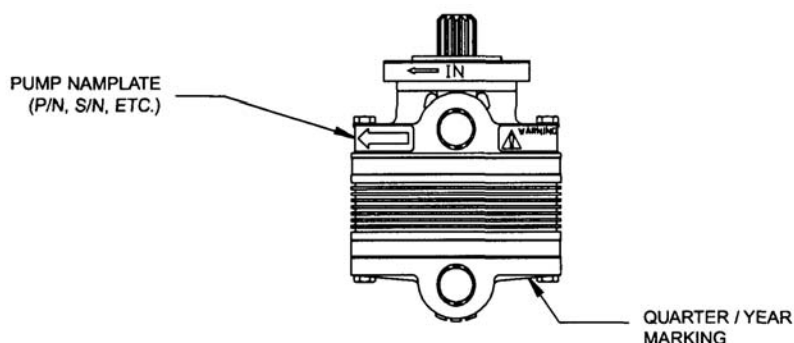

Figure 1
- 1) The date of manufacture is encoded in the serial number located on the nameplate of the air pump as depicted in Figure 1. The first numbers (1 through 12) of the serial number indicate the **month** (January through December) of manufacture. The following letter combinations of the serial number indicate the **year** of manufacture:
- 2) There may be an occasion when the nameplate has been lost or obliterated. Starting in 1972, a quarter/year marking may have been stamped on the back of the air pump as depicted in Figure 1. For example, 2Q02 signifies the air pump was manufactured in the second quarter of 2002.